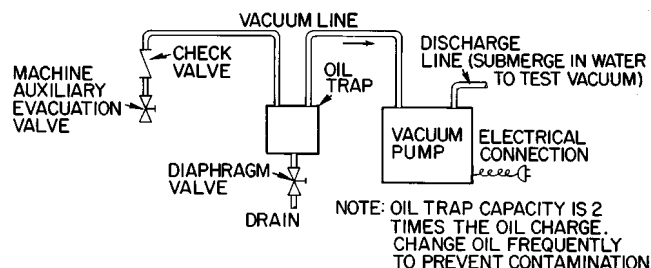

Fig. 34 — Machine Evacuation Device
1. Connect an auxiliary evacuation device to the auxiliary evacuation valve (Fig. 34). Use a line size at least equal to the connection size on the auxiliary device and keep the line as short as possible. *A check valve must be used on the suction lines. Be sure all connections are vacuum tight.*